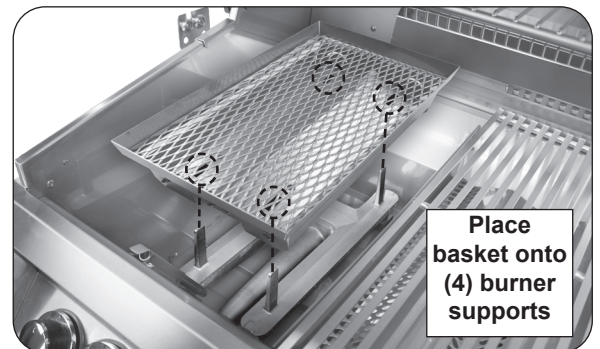
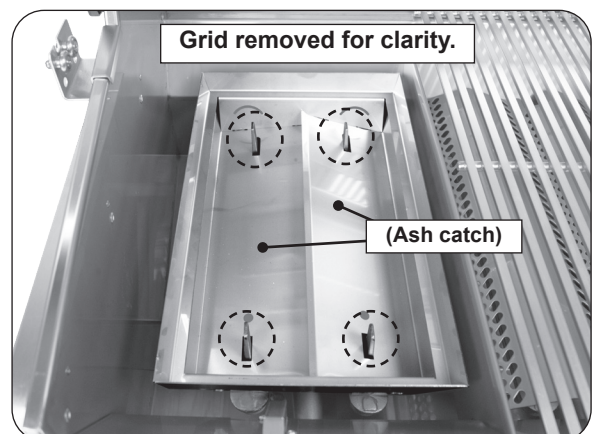

Fig. 41-3 Place basket onto burner
Fig. 41-4 Basket placement detail
3. Place basket onto burner in place of flavor grid. Align basket cutouts over burner supports (see Fig. 41-3 and Fig. 41-4).